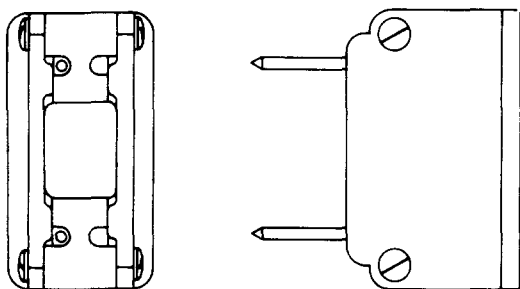

Fig. 13—419A Plug
**2.13 419A:** The 419A (Fig. 13) is a black, molded, plastic plug having two terminals. The 419A is used as a terminating plug for the KS-14418 head set in the E6 Voice Frequency Repeater.